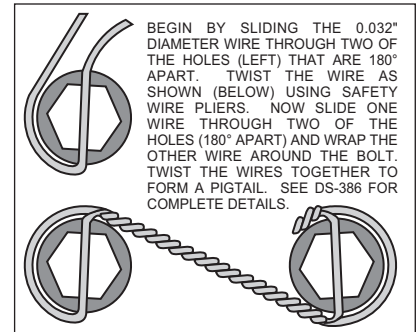

Figure 3. Safety Wire Diagram
- The caliper mount bracket assembly (1) should be installed first with clean, dry threads on the mounting bolts. Mount the bracket using bolts (2) and the stock washer saved from the disassembly installed from the backside of the spindle. The bracket must tighten squarely against the outboard side of the caliper mount bosses on the spindle body. Inspect for interference from casting irregularities, machining ridges, burrs, etc. Use one thin shim (3) between the bracket and spindle during initial trial fitting. Later, after the caliper, pad, and rotor alignment has been checked, and any necessary shims have been put in place, the mount bolts should be coated with red *Loctite*® 271 and torqued to 65 ft-lbs.
- With the larger I.D. side of the rotor (4) facing away from the hat (5), bolt the rotor (4) to the hat (5) through the backside of the rotor using washers (6) and bolts (7). Torque bolts (7) in an alternating sequence to 85 **in-lb**. Safety wire bolts (7) using standard 0.032 inch diameter stainless steel safety wire as shown in Figure 3. Please refer to Wilwood's data sheet DS-386 (available at [www.wilwood.com/pdf/ds386.pdf](http://www.wilwood.com/pdf/ds386.pdf)) for complete safety wire installation instructions.
- Install spacer (8) and one washer (9) over each pre-installed stud (10) on the radial mount bracket (1). Slide the caliper (11) in place over the studs and rotors, then install the washer (13) and lock nut (12) to hold the caliper in place. The caliper bleed screws should be pointing up. Snug the lock nuts (12) and check that the rotor (4) is centered in the caliper (11). Add or subtract .03" shims (3) as necessary between the caliper mounting bracket (1) and the spindle to center the caliper (11).
- Remove the caliper center bridge pad retainer bolt, nut, and tube from the caliper. Slide the brake pads (14) into place. They should install easily without interference. Check that the outside radius of the brake pad is aligned with the outside diameter radius of the rotor face. Add or subtract shims (9) between the caliper and mount bracket to gain the proper alignment. Reinstall the center bridge pad retainer tube, bolt, and lock nut. The locknut should be snug without play in the bolt or tube. Be cautious not to over tighten.
- Once all clearances have been checked, remove the wheel, caliper, hat, and rotor from the spindle and hub. Secure the caliper mounting bracket (1) to the spindle using red *Loctite*® 271. Torque the bolts to 65 ft-lbs. Reinstall the hat and rotor assembly and again use several wheel bolts to hold it in place. Lubricate caliper mounting studs and nuts with lightweight oil, reinstall the caliper, torque the caliper nuts (12) to 30-35 ft-lbs.